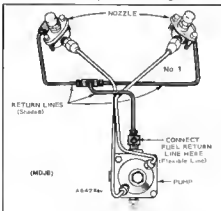

FIGURE 3-38 FUEL LINES TO INJECTORS
3. Remove No. 1 injector line, re-install line with top end of line in pump outlet so other end will direct fuel flow into an open container, Figure 3-38